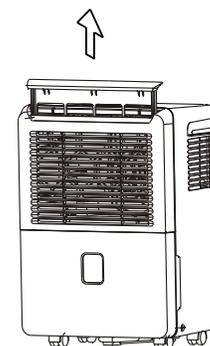

Fig. 11
- Remove the filter from the top of the unit (see Fig. 11).